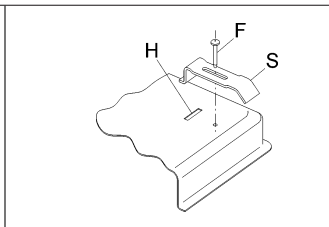

FIG. 10
- Fix the hotplate to the worktop with the brackets "S". Ensure the tag fits into the hole "H" on the hotplate base, then tighten the screw "F" until it is locked to the worktop (fig. 10).